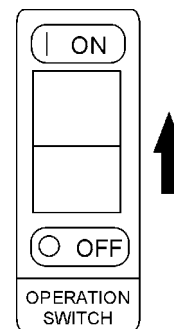

Figure 14. Generator On/Off Switch (ON)
4. Place the **generator ON/OFF switch** (Figure 14) in the "ON" position.